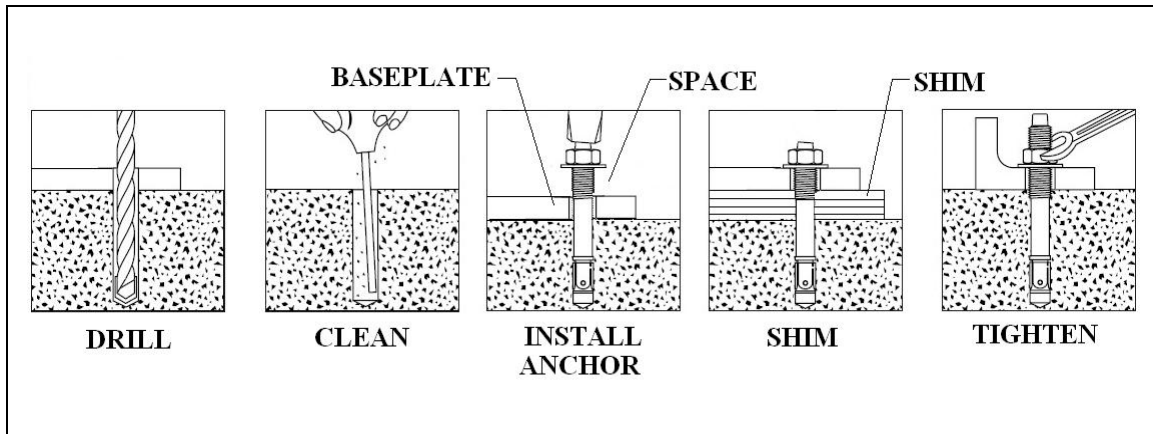

Figure 13. Anchor installation
1. Refer to **Figure 13** while reading through these instructions.